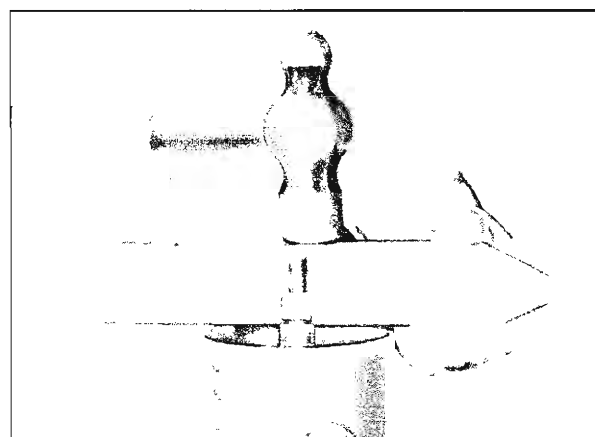

Fig. 36—Installing Turn Signal Cover
19. Remove the tilt release lever and, after aligning the turn signal cover properly, tap it into place using a block of wood (fig. 36).